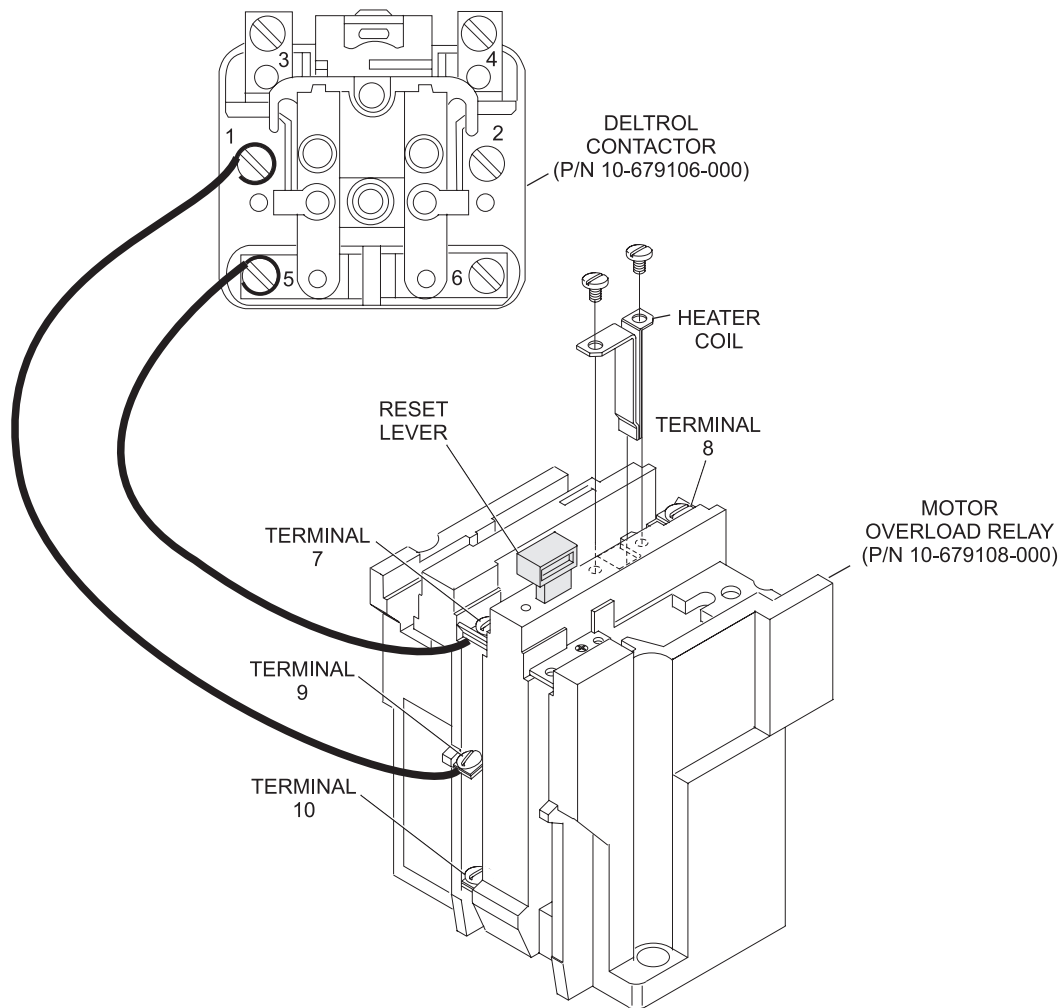

Figure 7
13. Connect a 16 gauge jumper between terminal 9 of the overload relay and terminal 1 on the contactor. Refer to *Figure 7*.
14. Connect a 12 gauge jumper wire between terminal 5 of the contactor and terminal 7 of the overload relay. Refer to *Figure 7*.